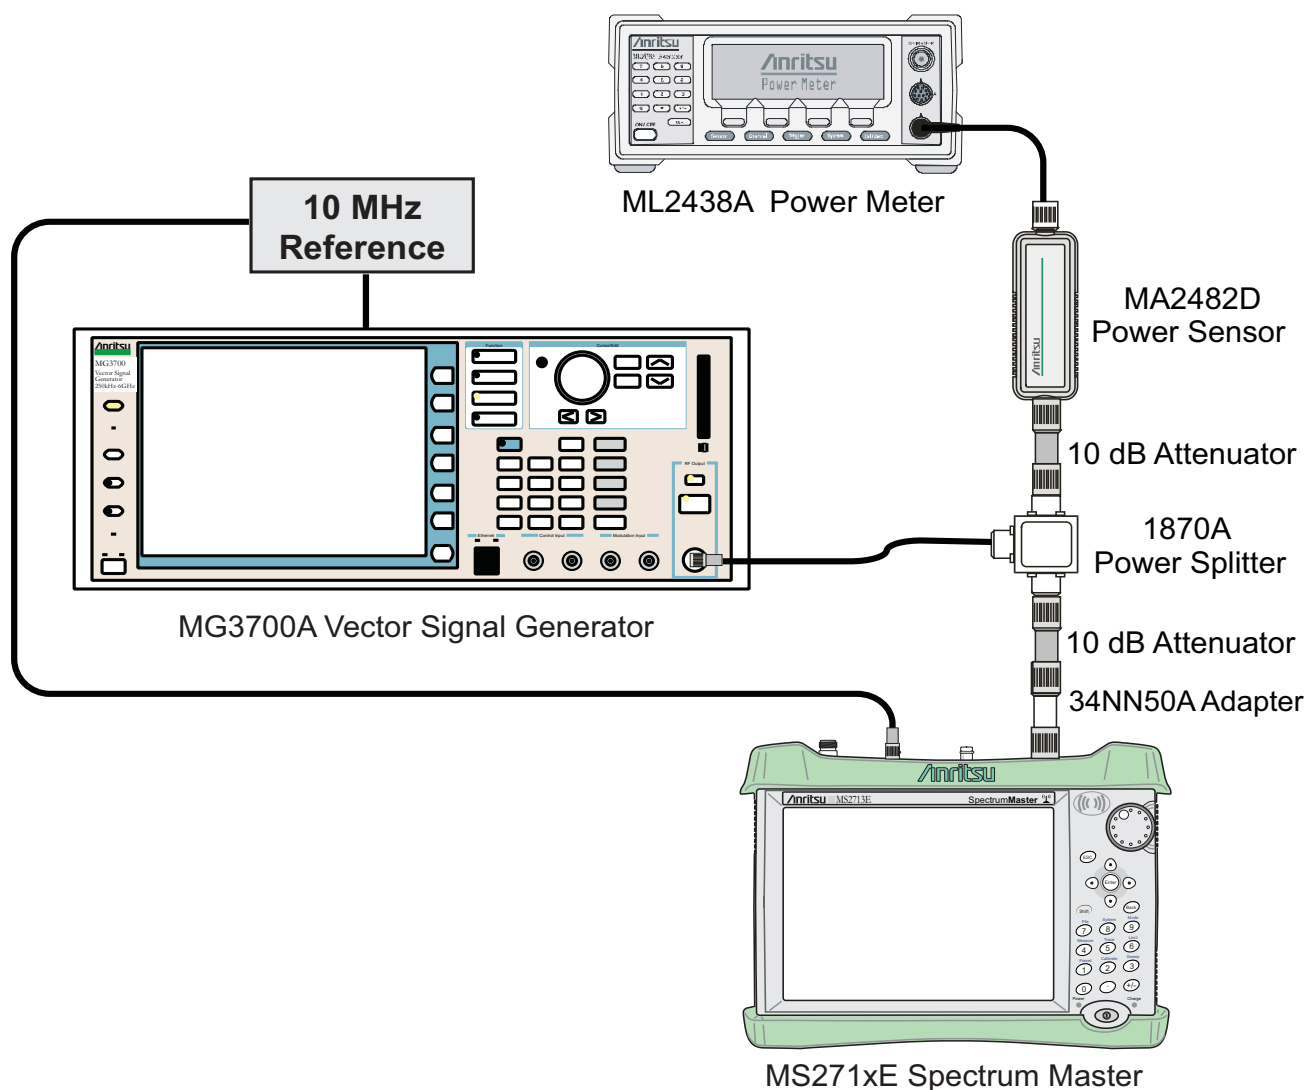

Figure 4-20. LTE Signal Analyzer Option Verification
4. Connect the equipment as shown in Figure 4-20.